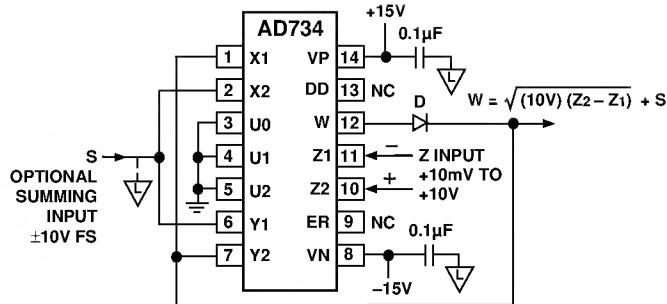

Figure 9. Connection for Square Rooting
In some cases, feedback may be connected to two of the available inputs. This is true for the square-rooting connections (Figure 9), where W is connected to both X_1 and Y_2 . Setting $X_1 = W$ and $Y_2 = W$ in Equation (2), and anticipating the possibility of again providing a summing input, so setting $X_2 = S$ and $Y_1 = S$, we find, in shorthand form
The AD 734 may be used to generate an output proportional to the square-root of an input using the connections shown in Figure 9. Feedback is now via both the X and Y inputs, and is always negative because of the reversed-polarity between these two inputs. The Z input must have the polarity shown, but because it is applied to a differential port, either polarity of input can be accepted with reversal of Z1 and Z2, if necessary. The diode D, which can be any small-signal type (IN 4148 being suitable) is included to prevent a latching condition which could occur if the input momentarily was of the incorrect polarity of the input, the output will be always negative.